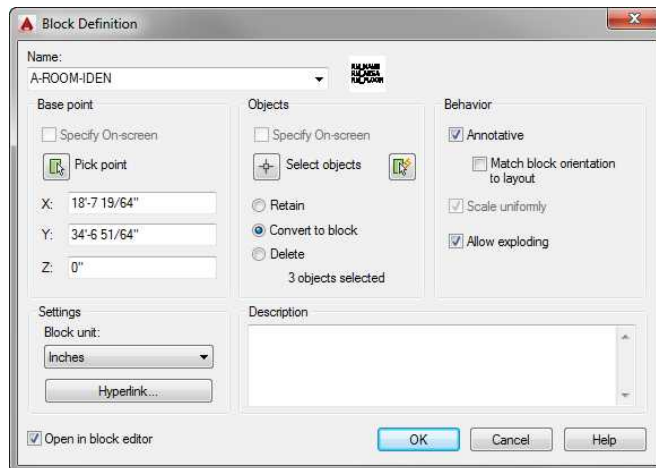

FIGURE 9.19 The Block Definition dialog box for the A-ROOM-IDEN block
10. Assuming the Block Definition dialog box looks like Figure 9.19, click OK to dismiss the dialog box.